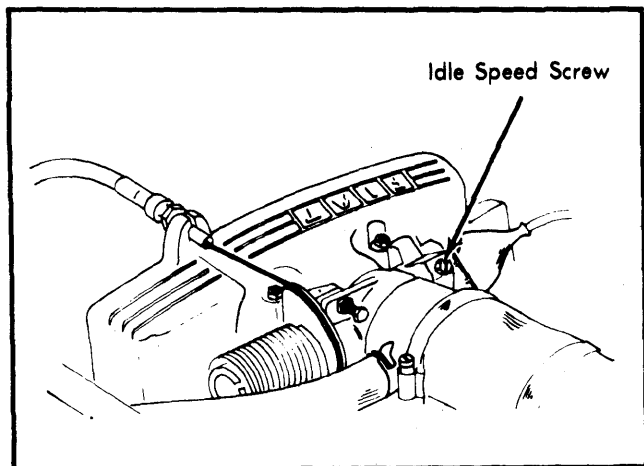

Fig. 4 Fuel Injection Idle Speed Adjustment
- 2) Turn air bypass screw on top of intake manifold to adjust idle speed to specifications. See Fig. 4.